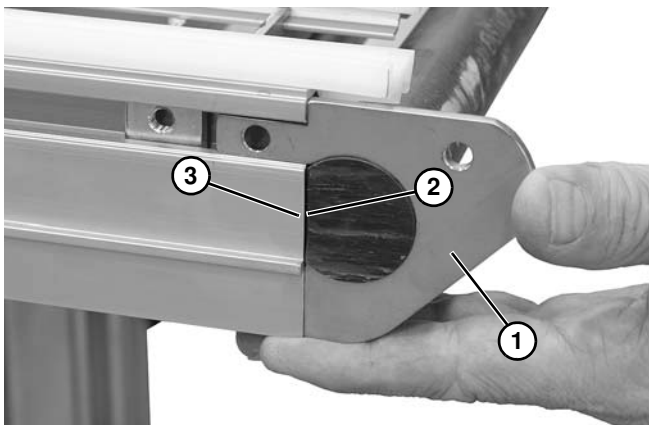

Figure 84
- When re-installing idler tail (**Figure 84, item 1**) with wear bar, make sure that the flat end (**Figure 84, item 2**) of the wear bar is flush against the conveyor (**Figure 84, item 3**).